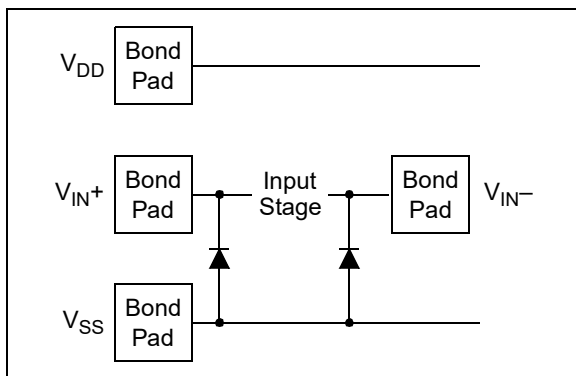

FIGURE 4-1: Simplified Analog Input ESD Structures.
The ESD protection on the inputs can be depicted as shown in Figure 4-1. This structure was chosen to protect the input transistors and to minimize input bias current (IB). The input ESD diodes clamp the inputs when they try to go more than one diode drop below V_{SS}. They also clamp any voltages that go too far above V_{DD}. Their breakdown voltage is high enough to allow normal operation, and low enough to bypass ESD events within the specified limits.